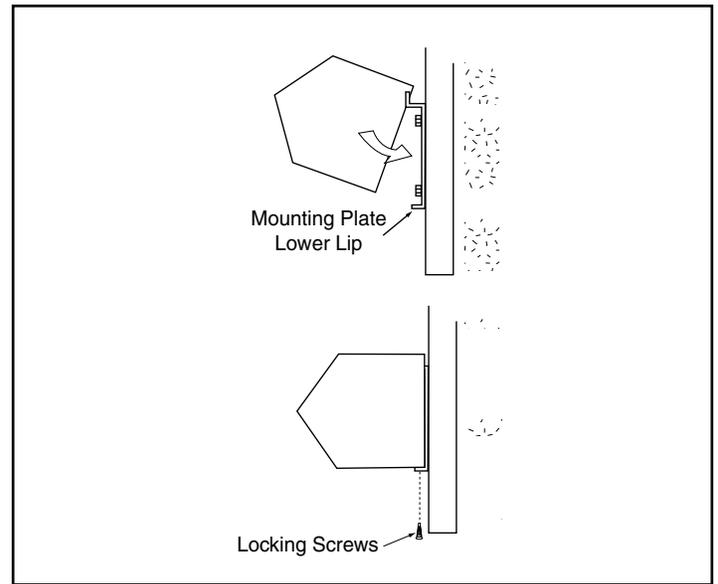

FIGURE 4 - Attaching Unit to Mounting Plate
See FIGURE 4.
- G. After the unit is securely seated to the mounting plate, install the locking screws along the bottom flange. **See FIGURE 4.**